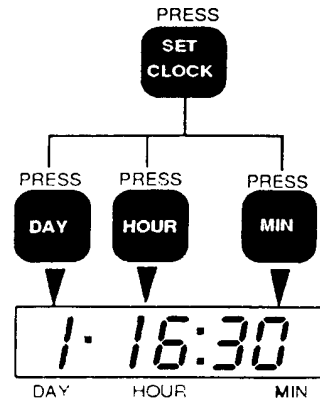

Fig. 3
(Refer to **DAY CONVERSION TABLE** and **MILITARY TIME TABLE** on this page for reference.) To set the clock, press **SET CLOCK** key. Next, press **DAY** key until appropriate day of the week is displayed. Press **HOUR** key until correct hour is displayed. Press **MIN** key until correct minute is displayed. Clock is now set for time of day. Example: Monday (1) 4:30 p.m. (16:30 hours). See Fig. 3.